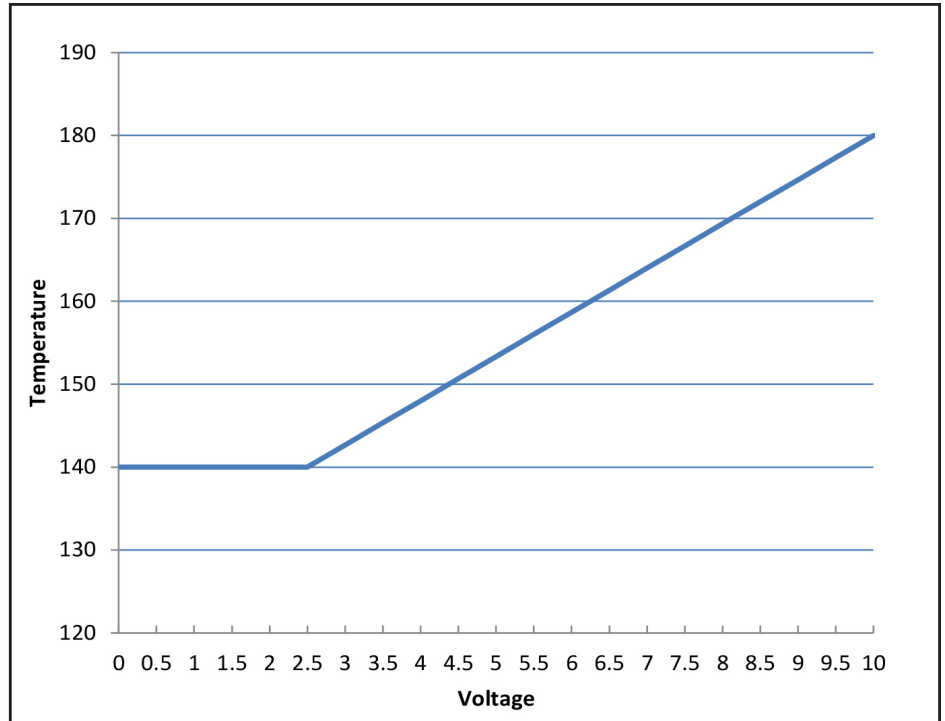

Figure 36. External Set Point Example
- Using the default values for Boiler Max Set Point (180°F), Boiler Min Set Point (140°F), Demand Minimum (2.5VDC), Demand Maximum (10.0VDC), the unit will linearize the set point, as shown in **Figure 36**.